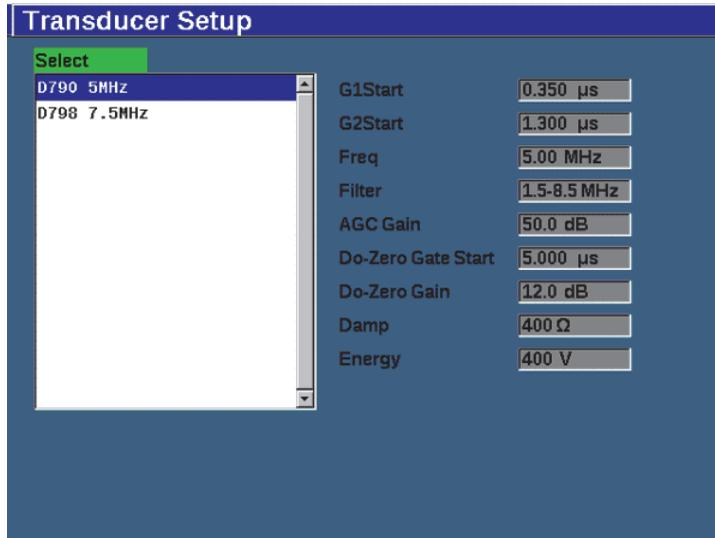

Figure 11-38 Corrosion Module transducer Setup menu
3. Press  to finish the activation and display the **Transducer Setup** page (see Figure 11-38 on page 279).